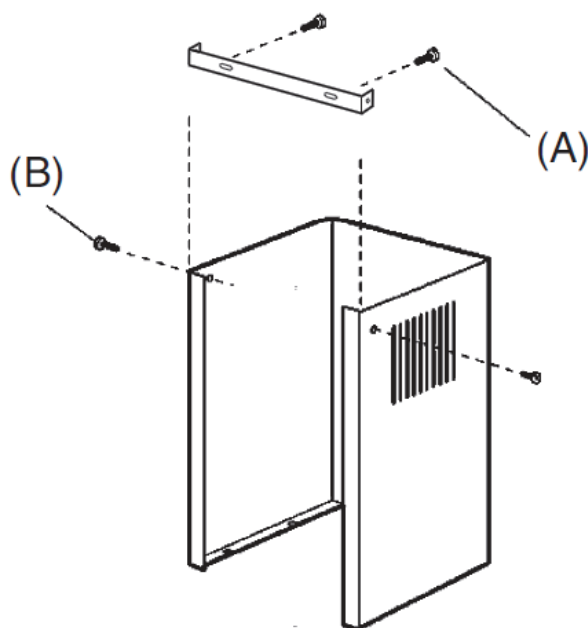

Fig.2
Fix the upper flue cover to the support bracket with screws (B) (Fig.2)